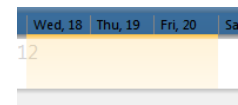

Figure 20 - Selecting Multiple Days in the Time Bar
- Click the 'Read' button to read each selected sensor. The sensor's name, serial number, reading time and measurement data is displayed. If a configured sensor is not attached to the DataSnap, an error is displayed. Notice in figure 20, the sensor named '2\" Deep' had an error.
To select a single day, click on the date in the blue region at the top of the time bar **Thu, 12** **Fri, 13**. As an example, figure 23 shows that Thursday January 19, 2012 has been selected. To select multiple full days, left click on a date and while holding down the left mouse button, drag to another date and release the button. The selection range will be highlighted in yellow as the mouse is dragged. The selection window will now change to the range that was selected. As an example, Figure 20 shows how the time bar would look while clicking 'Wed, 18' and dragging to 'Fri, 20'. Once the mouse is released, the range selection window will move and the main graph will display data for the three selected days.